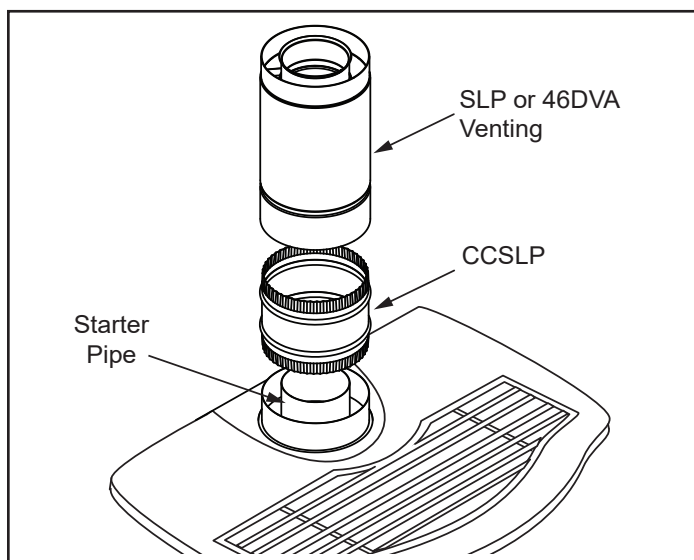

Figure 3.2 - Attach inner assembly to flue collar.
4. Place a 3/8" bead of sealant around the 4" crimped end of the starter collar on the stove. Stove cement is provided in the manual bag for this purpose. Attach the SLP pipe to the adapter, and secure by aligning adapter and pipe seams, pressing down firmly until pipe stops, and twisting to lock into place, Figure 3.2.
3. Install the vent system as described in Figures 3.2 thru 3.9.